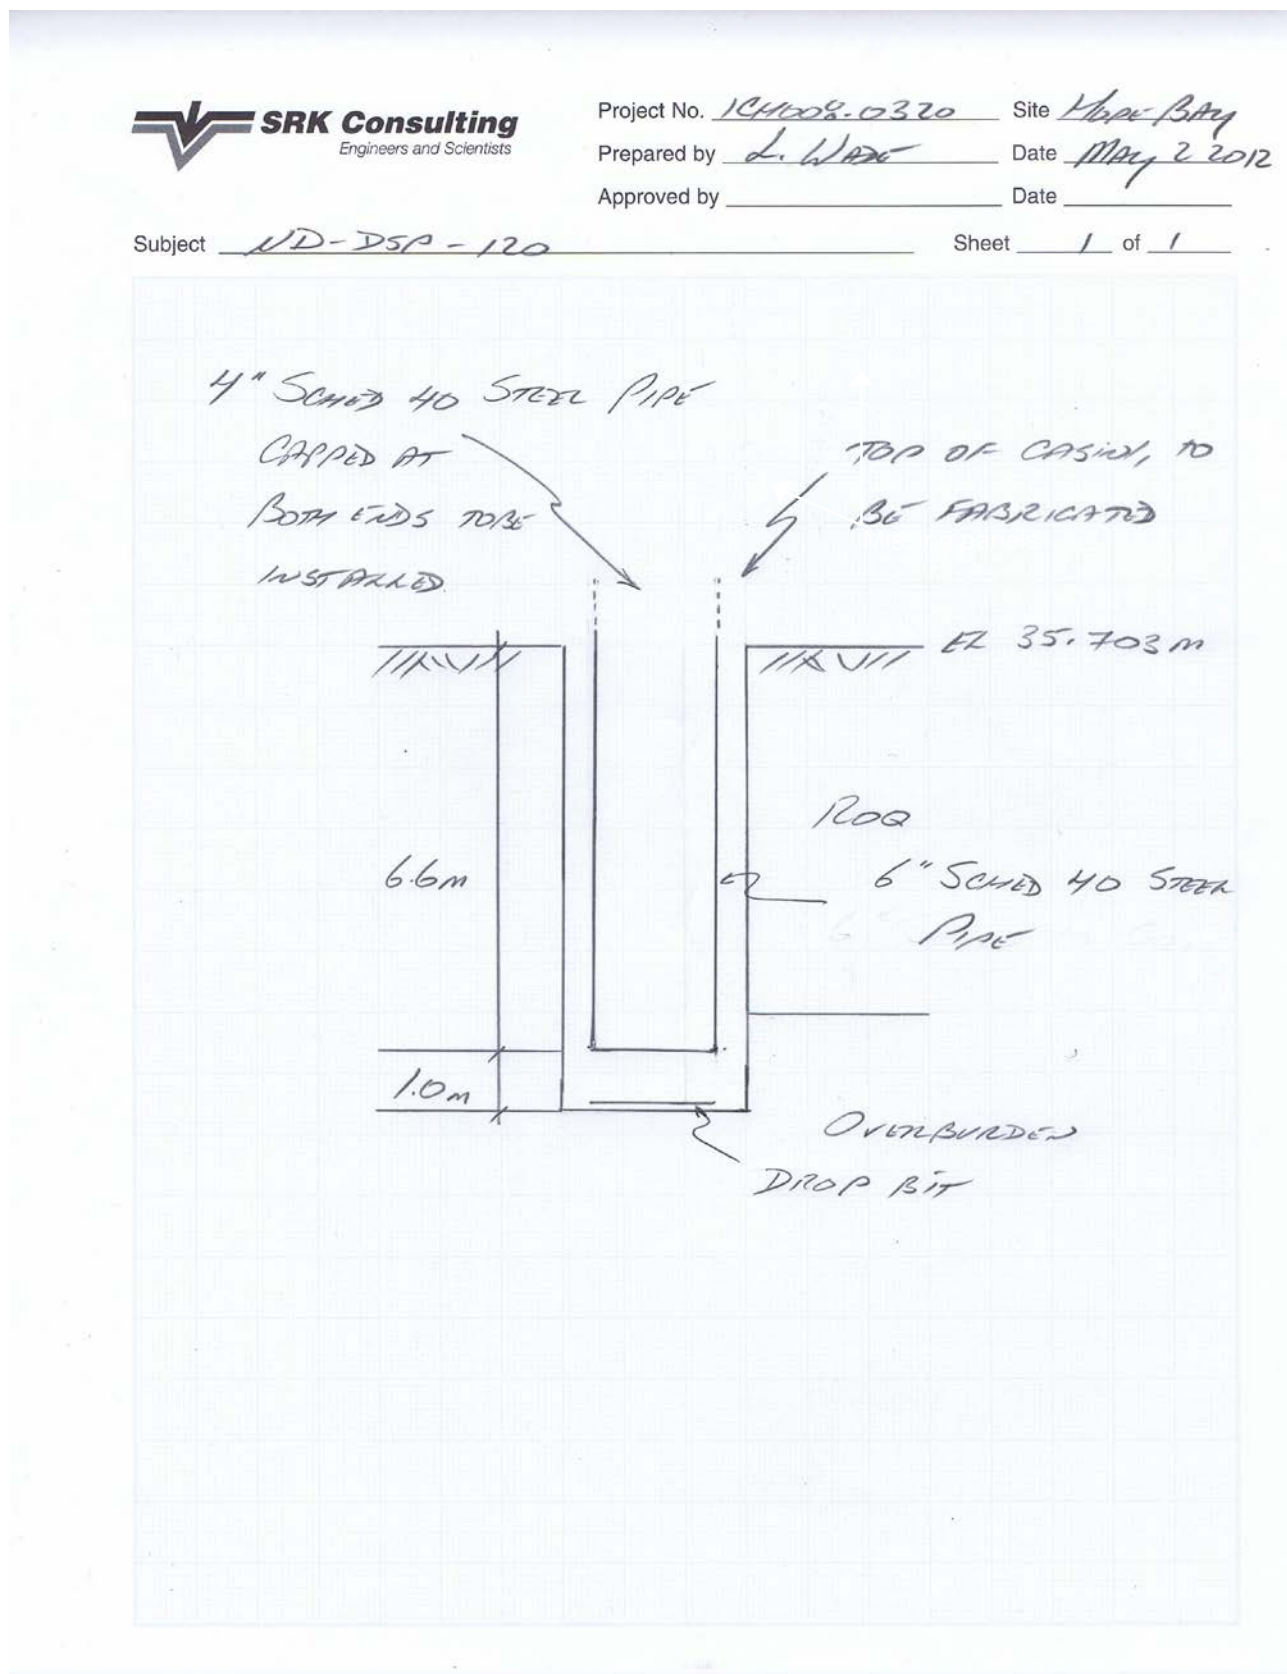

Figure 1: Borehole log for ND-DSP-120.
- ND-DSP-120 was completed (Figure 1).